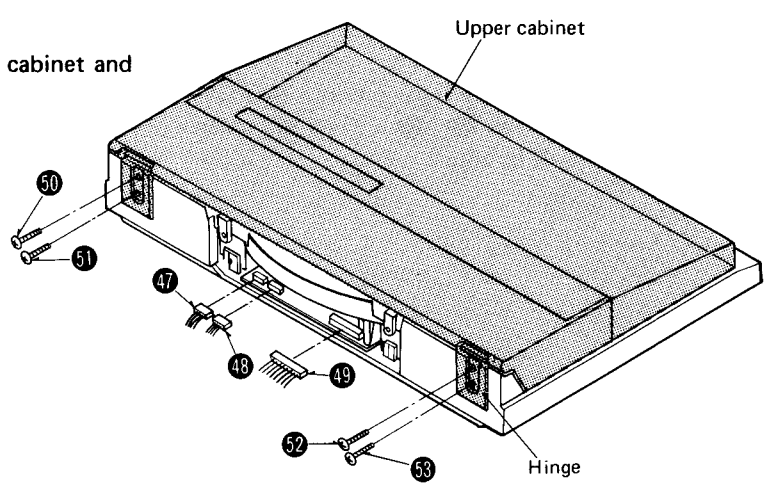

Fig. 11
2. Remove the connectors 47 ~ 49. (Fig. 11)
3. Remove the hinge setscrews 50 ~ 53; open the upper cabinet and remove it by lifting. (Fig. 11)